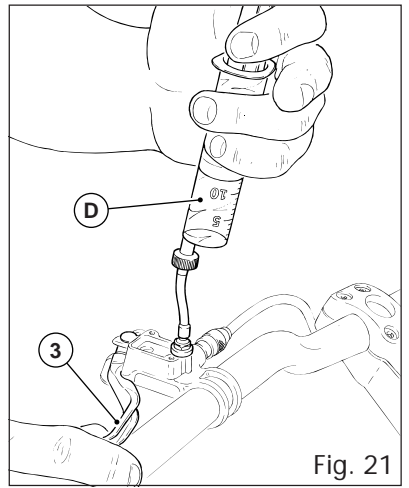

Fig. 21
- untighten the caliper bleed valve (18) just a bit;
- get recommended brake fluid from a new bottle and fill the special syringe (D) with mounted connector;
- pull the brakelever (3, fig. 21) all the way to the handlebar and fix it there with a rubber band or zip tie;
- retighten the bleed valve (18) and then remove the 4 mm tube;